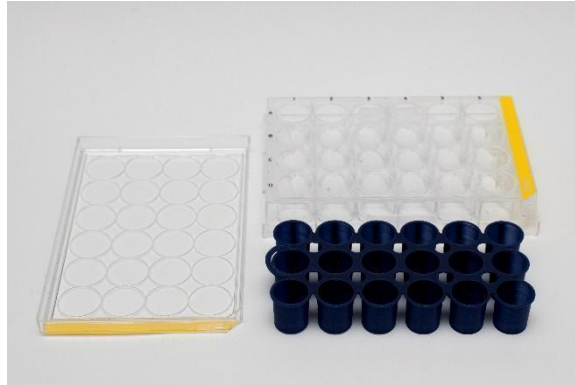

Figure 2: Unpacking Gelacell™ and removing the blue tops.
1. Adhering to aseptic techniques, place the Gelacell™ package under a laminar flow hood and carefully remove the well plate and blue tops (Figure 2).